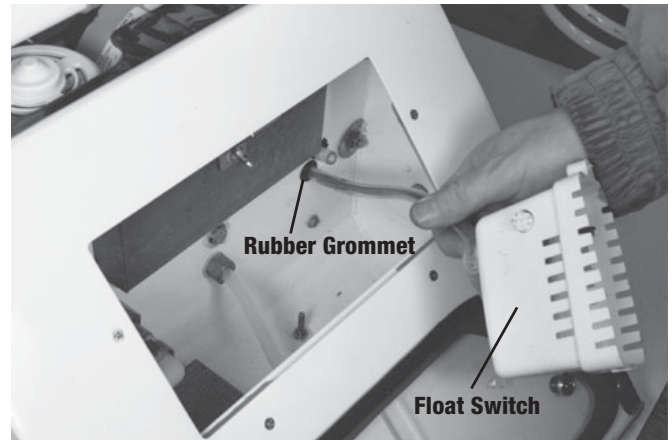

Figure 12
5. Remove thumb-nut from float switch and pull float wires through rubber grommet (fig. 12).